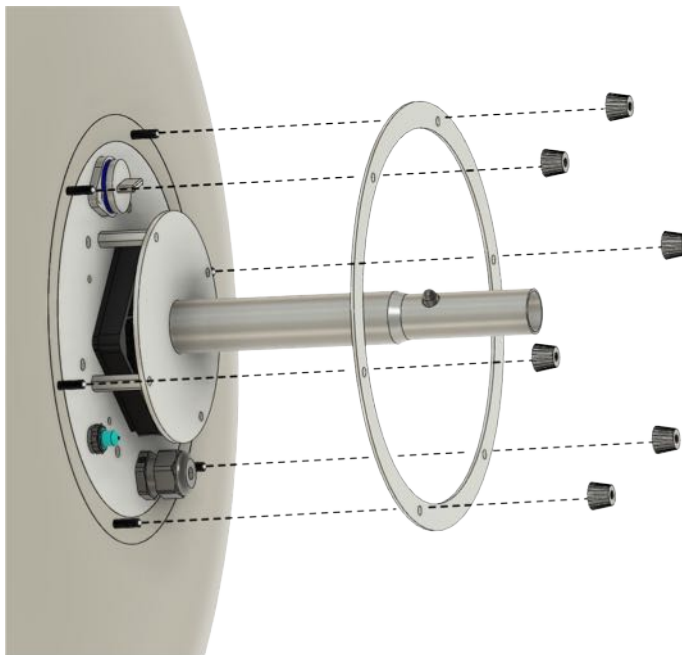

Abb. 5
2. Remove the 6 cone nuts and the aluminium ring at the bottom of the base plate (Fig. 5).